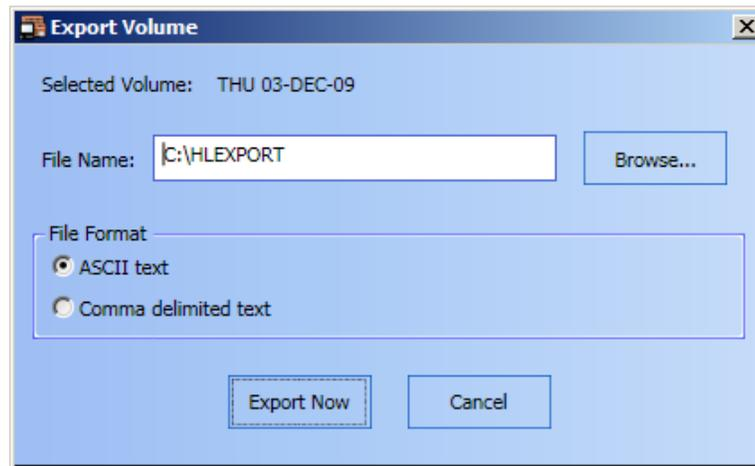

Figure 9-10 Export Volume Dialog Box
3. An **Export Volume** dialog box appears, as shown in Figure 9-10. From this dialog box, set the following parameters: